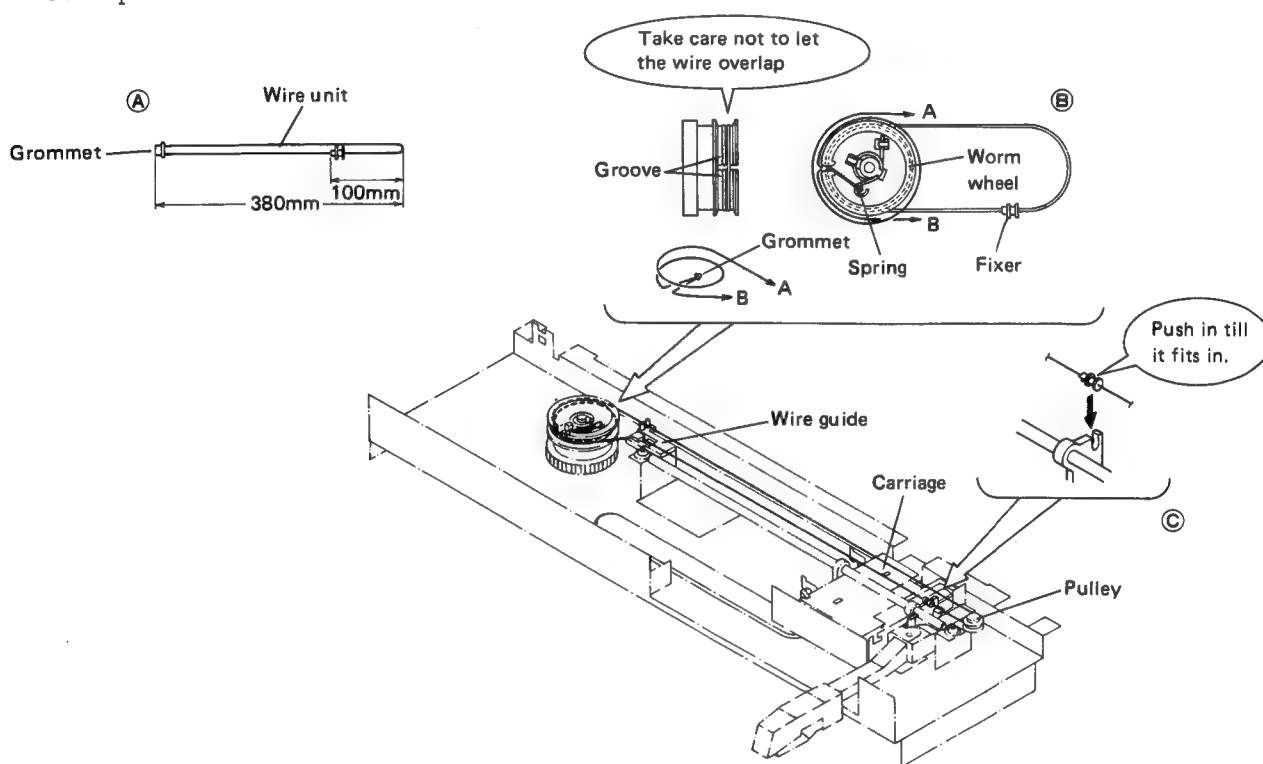

Fig. 5-4 Wire Replacement
1. Adjust the length of the wire unit as shown in figure 5-4 (A).
2. Attach the wire unit grommet to the spring of the worm wheel as shown in figure 5-4 (B). Then wind the wire onto the worm wheel taking care not to let it get caught in the worm wheel groove. Also be careful not to let the wire overlap.
4. As shown in figure 5-4 (C), put the wire around the pulley, and push the fixer into the carriage until it locks with a click.